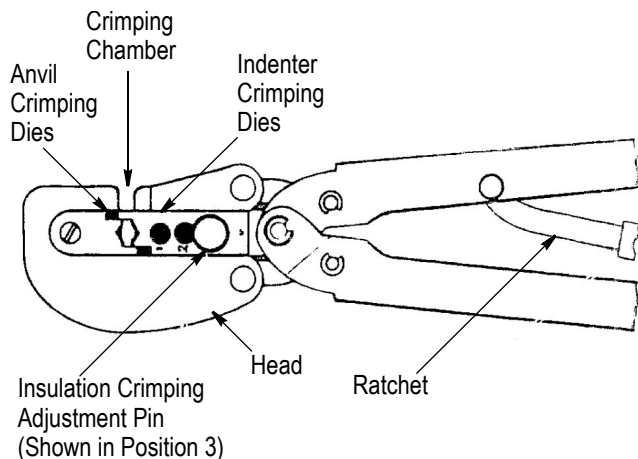

Figure 1
CERTI-CRIMP Heavy Head Hand Tool 59054, shown in Figure 1, is designed to crimp DIAMOND GRIP terminals and splices onto stranded wire sizes 12 through 10 AWG. Read these instructions thoroughly before using the tool.
1. Insert the insulation crimping adjustment pin into Position 3 as shown in Figure 1.
4. Check the insulation support by bending the wire back and forth once. The insulation barrel should retain grip on the wire insulation. If the wire pulls out, move the insulation crimping adjustment pin to the next tighter position (2) and perform another test crimp. If the wire does not pull out, the pin is properly adjusted and the tool is ready for crimping. Do not use a tighter crimp than necessary.